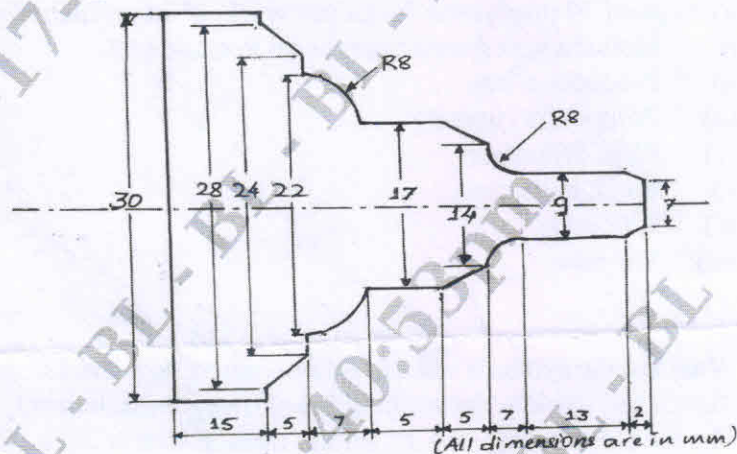

Fig.Q.7(b)
- b. Write a manual part program for multiple turning operation for the component shown in Fig.Q.7(b). (10 Marks)